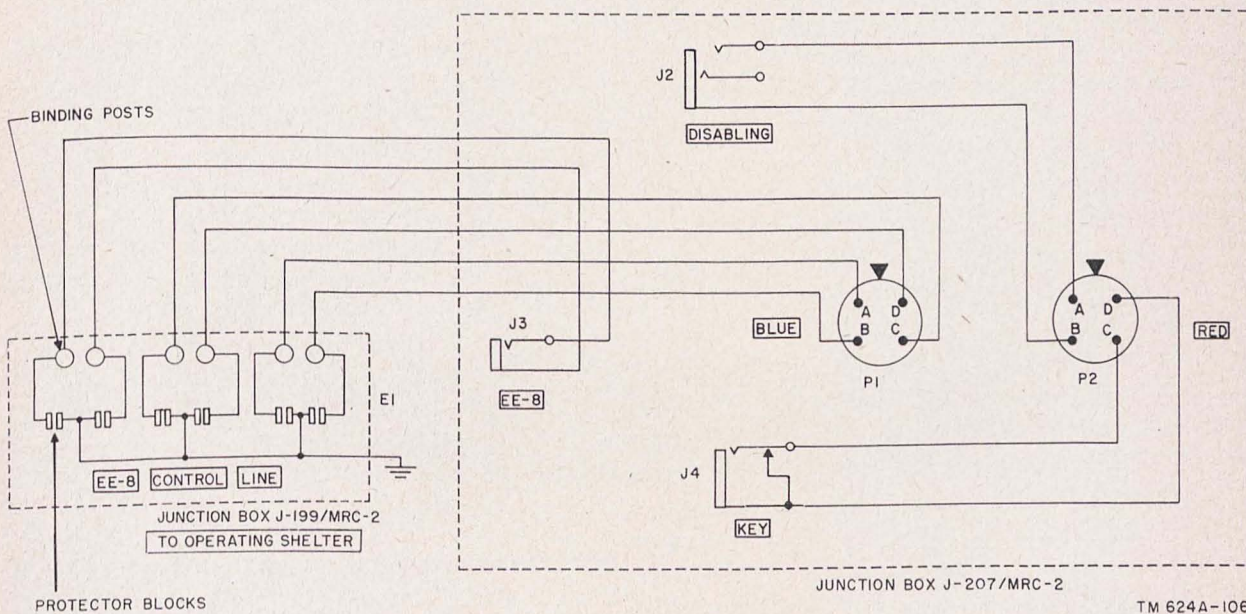

Figure 79. Junction Boxes J-207/MRC-2 and J-199/MRC-2, schematic diagram.
*d. Junction Boxes J-207/MRC-2 and J-199/MRC-2 (fig. 79).*